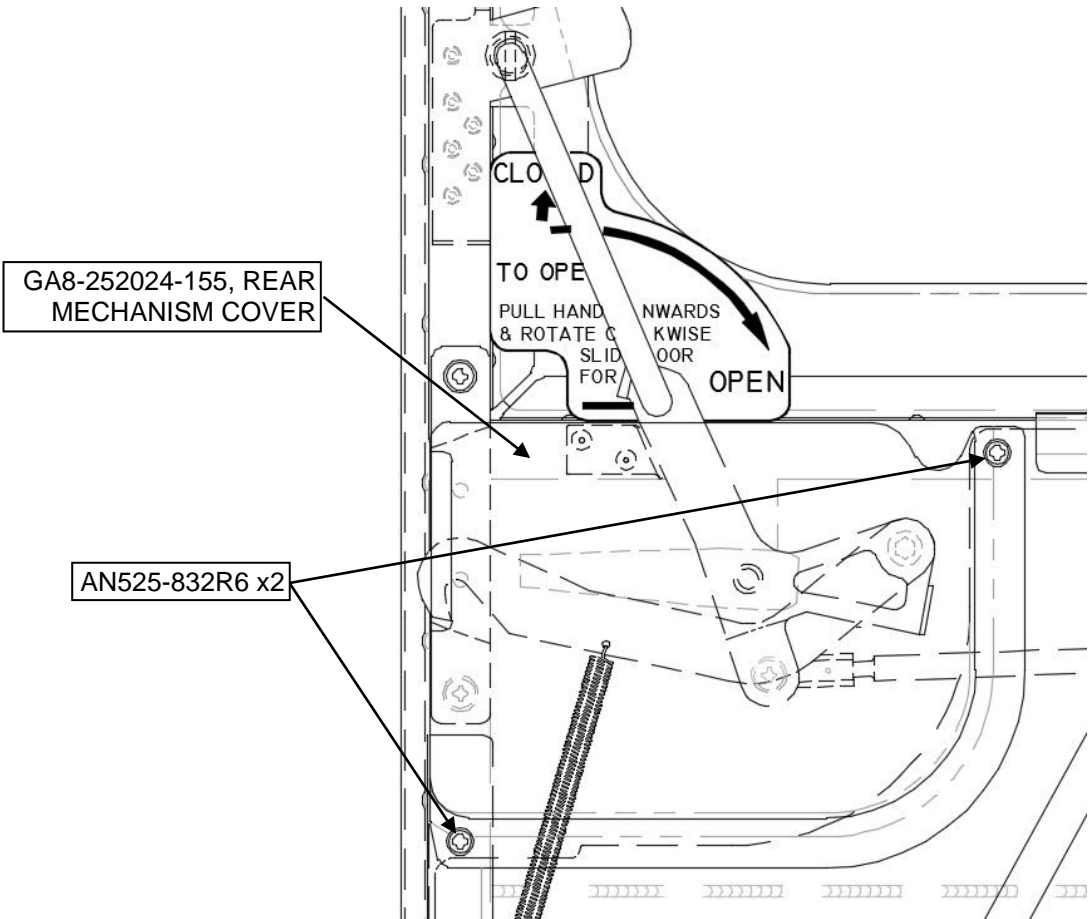

Figure 7: Rear Mechanism Cover
1. Remove Rear Mechanism Cover, refer to Figure 7.
6. Reinstall the Rear Mechanism Cover, refer to Figure 7.
5. Reinstall the Rear Mechanism Cover, refer to Figure 7.